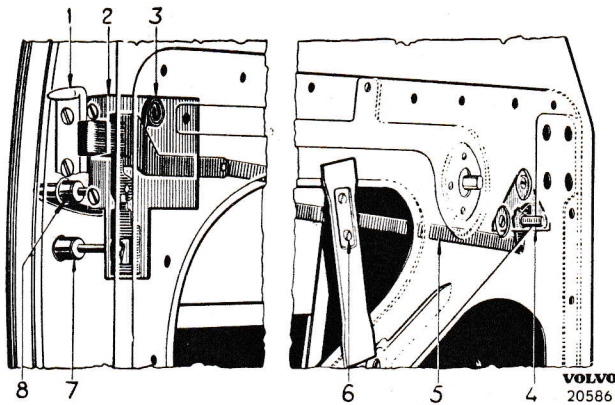

Fig. 23. Door lock.
5. Loosen the screws holding the lock (2, Fig. 23), the guides (6) for the link (5) and the remote control (4). Lift out the door lock in a downwards direction.